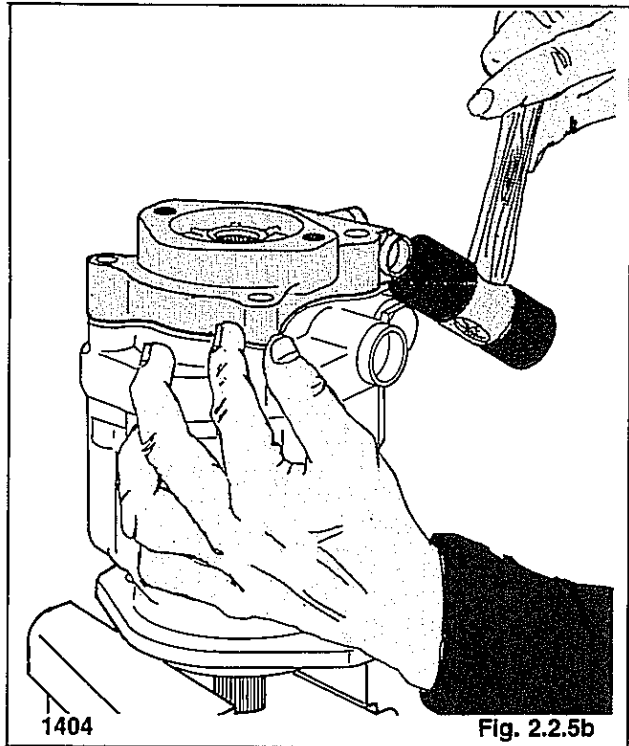

Fig. 2.2.5b
2. Use a plastic hammer and tap the adaptor plate to loosen it from the back plate. Remove the adaptor plate from the pump assembly (fig. 2.2.5b).